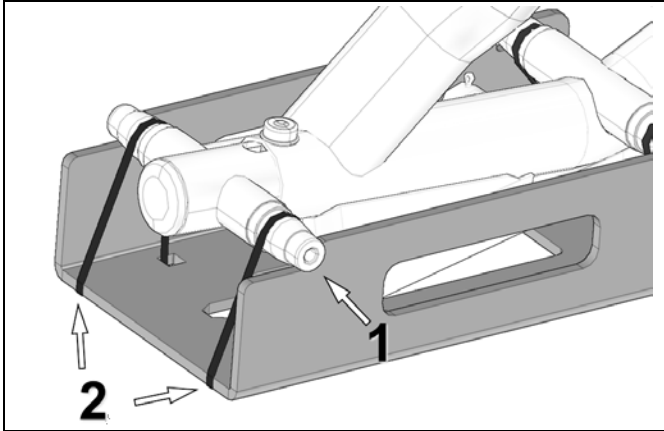

Figure 40
Position tensioner wheel axle ends in the corner notches (1) of the tool. Attach alignment tool to the track system frame using the provided tie wraps (2) Refer to Figure 40.